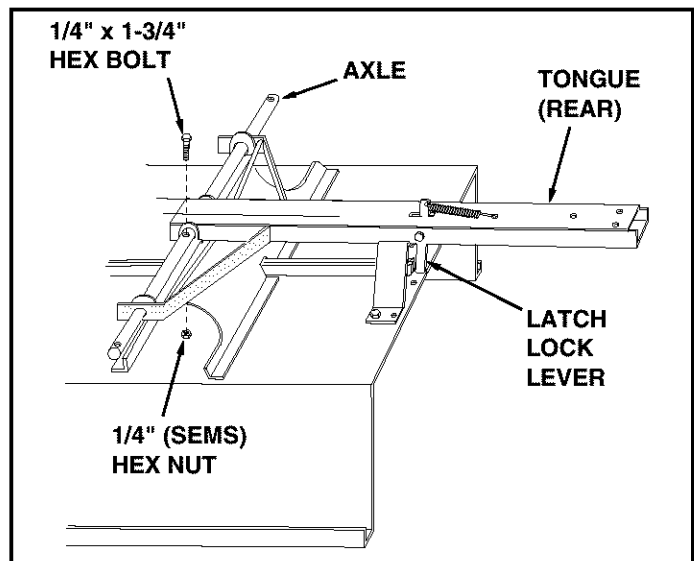

FIGURE 6
- Place the rear tongue onto the wheel support and the latch stand bracket. Assemble the axle through the wheel support and the tongue. Fasten the axle to the wheel support using two 1/4" x 1-3/4" Hex Bolts and 1/4" (SEMS) Hex Nuts. See Figure 6.